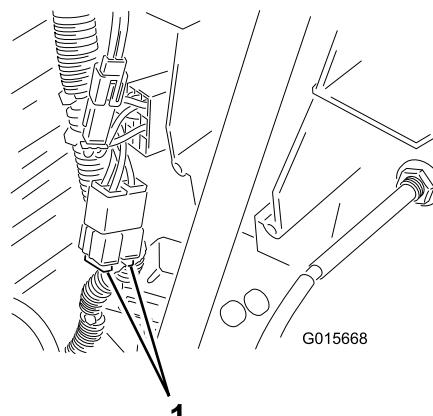

Figure 27
- Lift up the hood and locate the fuse below the fuel tank (Figure 27).